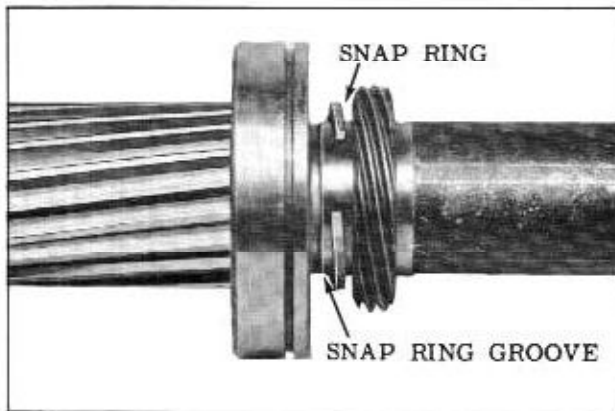

Fig. 11-23 Snap Ring Position Prior to Disassembly of Main Shaft
2. Remove the retaining ring from the groove and slide along the shaft toward the speedometer drive gear. (Fig. 11-23)